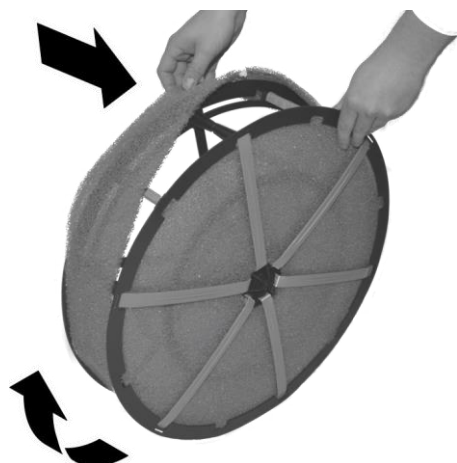

Fig. 27: Laying the outer evaporator filter
10. ➤ Carefully pull the new outer evaporator filter over the filter drum (Fig. 27), it may tear.